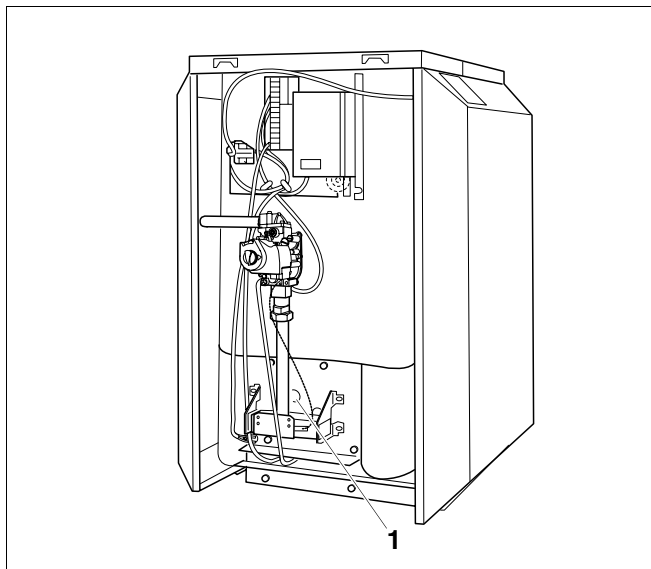
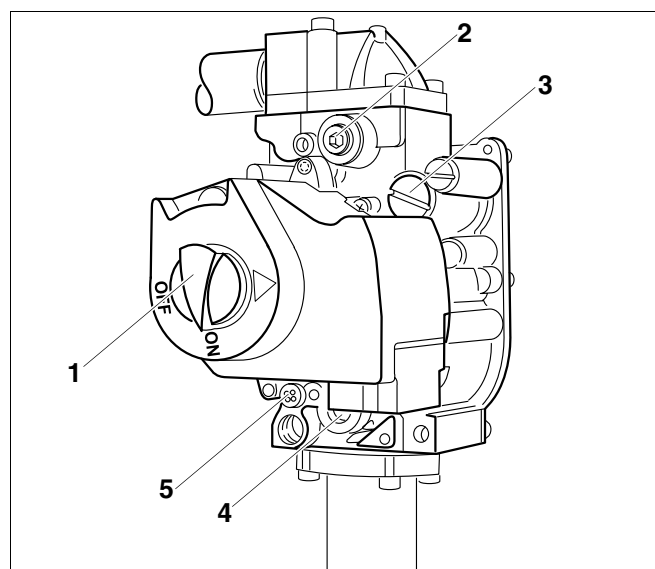

Fig. 29 G124X II boiler
Fig. 30 G124X II gas valve
13. Check manifold pressure. The manifold pressure must be set in accordance with the values in → Tab. 7. To set the manifold pressure the cover (→ Fig. 30) on the gas valve must be removed. Turn the adjustment screw clockwise to increase the pressure and counterclockwise to reduce the pressure. This setting must be adjusted while the boiler is operating.
14. Record the set value in the commissioning protocol of the installation and maintenance instructions and screw the safety screw (→ Fig. 30, page 33) into the gas valve again.
15. Observe pilot flame through the sight glass (→ Fig. 29, page 32) in the burner housing.
The adjustment screw is behind the pilot burner pressure adjustment safety screw (→ Fig. 30, page 33).
18. Remove safety screw for igniter orifice pressure setting (→ Fig. 30, page 33). Turn the inner adjustment screw clockwise to reduce the pilot flame and counterclockwise to enlarge the pilot flame.
19. After adjustment tighten the pilot gas pressure adjustment safety screw (→ Fig. 30, page 33) again.
20. Observe main burner flame through the sight glass (→ Fig. 29, page 32) in the burner housing. The flame must have a steady and fixed contour and generally has a bluish color. If the main burner flame meets the requirements, proceed with step 21. If the main burner flame is too weak or is yellow or goes out, turn the ON/OFF switch (→ Fig. 30, page 33) on the gas fitting clockwise to OFF. Close the gas valve and disconnect the heating system from the power supply and contact the customer service technician or the gas company.